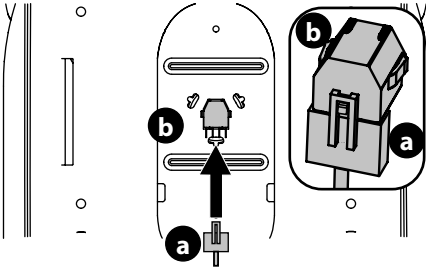

Figure 5
3. If necessary, securely connect the seat switch wiring harness (a) to the seat switch (b) (Figure 5). Secure excess wire away from pinch points before continuing.